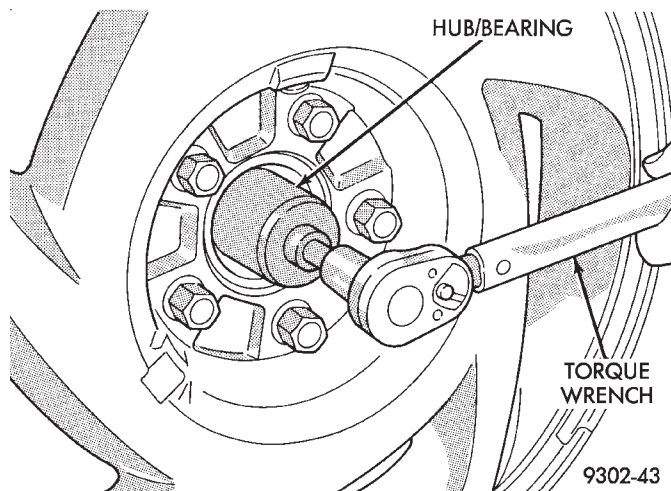

Fig. 20 Tighten Hub And Bearing Retaining Nut
(12) With the vehicle brakes applied to keep vehicle from moving. Torque the **NEW** stub shaft to hub and bearing assembly retaining nut to **163 N•m ± 14 (120 ft. lbs. ± 10)** (Fig. 20).